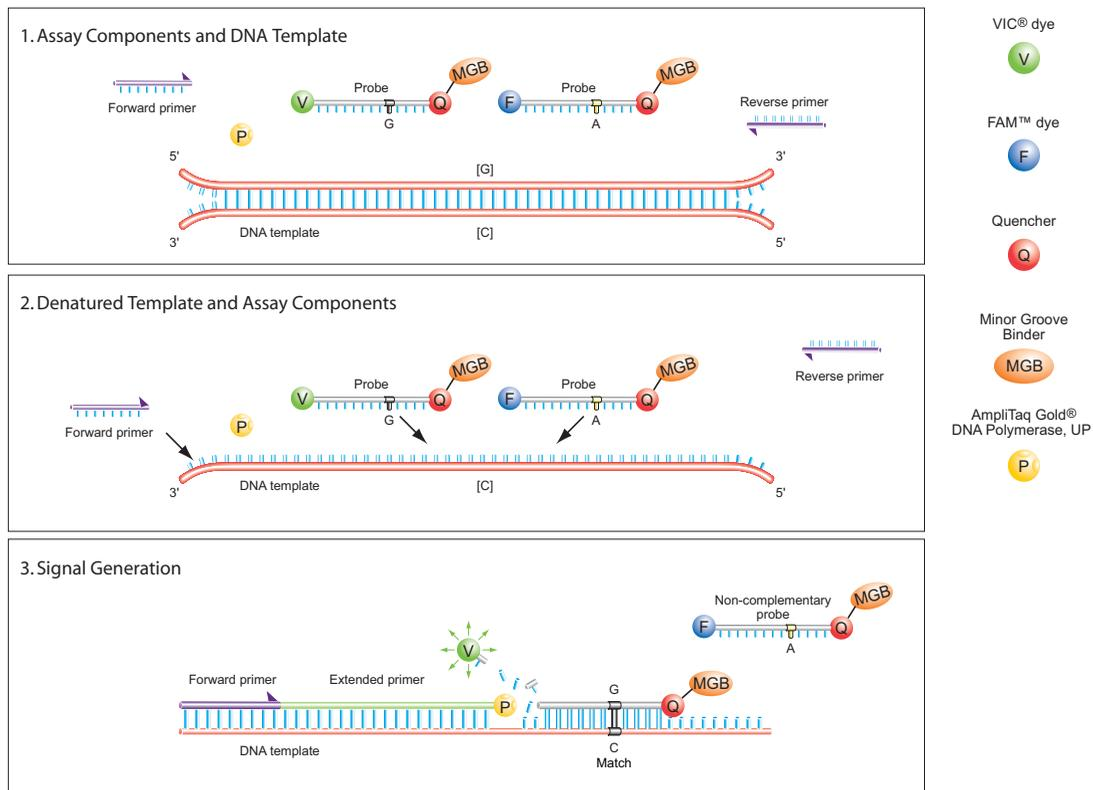

Figure 1 The complementary TaqMan probe fluoresces after it anneals to the template and after cleavage by AmpliAq Gold DNA Polymerase, Ultra Pure (UP).
- As shown in Figure 1 on page 7, AmpliTaq Gold DNA Polymerase, UP cleaves only probes that are hybridized to the target.